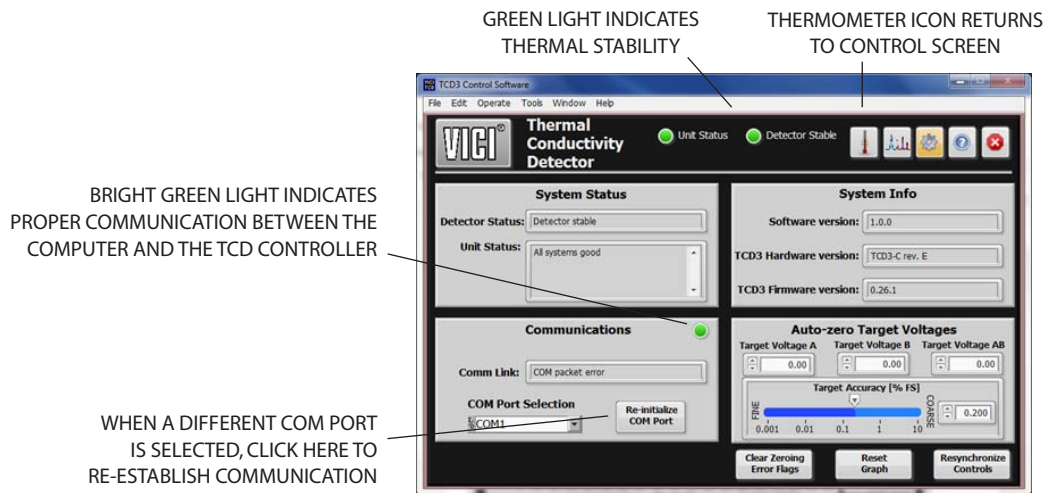

Figure 10: Configuration screen
3. Click on the gear icon at the top right of the Control screen to navigate to the Configuration screen. (**Figure 10**)